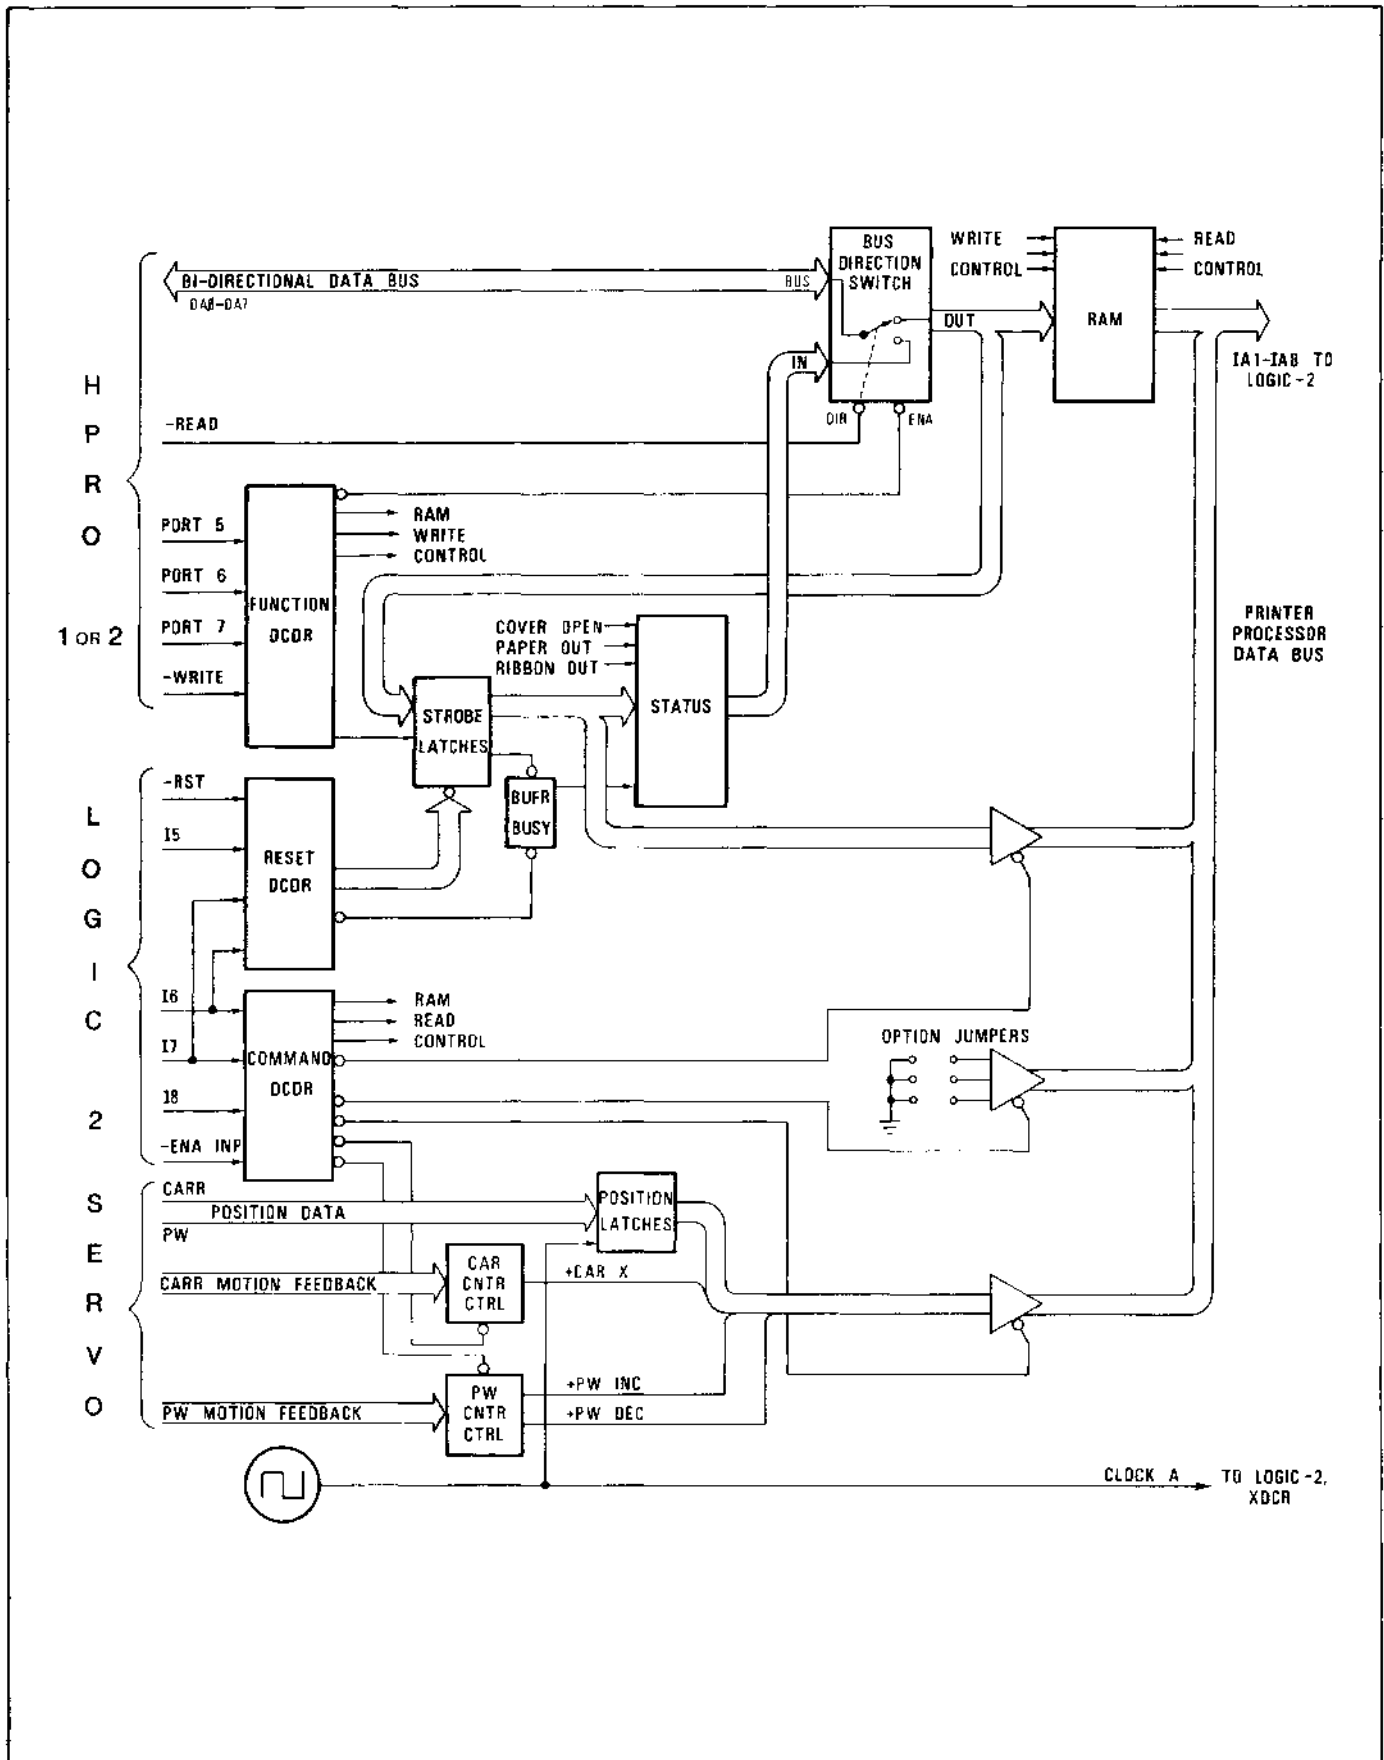

Figure 2-8. Block Diagram, 8080 INTERFACE Board
The transfer of a printer command from the terminal microprocessor to the printer microprocessor involves the following steps (refer to Figure 2-8):
**2.3.1.1.1 WRITE to Ports 6 and 7.** When a write command is executed to either port 6 or 7, the data appears on the bi-directional data bus simultaneously with the development of the  $\text{-WRITE}$  signal and  $\text{-PORT 6}$  or  $\text{-PORT 7}$ . The FUNCTION DCDR block in Figure 2-8 contains random logic which both enables (turns on) the BUS DIRECTION SWITCH, and addresses the RAM according to the I/O port selected. Since  $\text{-READ}$  is high at this time, the BUS DIRECTION switch allows data to flow from its "bus" connection to its output, from where it is written into the RAM.